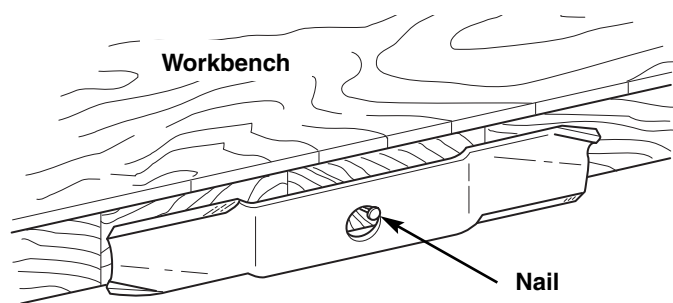

Figure 28. Balancing The Blade
6. Balance the blade as shown in Figure 28. Center the blade’s hole on a nail lubricated with a drop of oil. A balanced blade will remain level. If the blade is not balanced, continue to sharpen the heavy side until it balances.